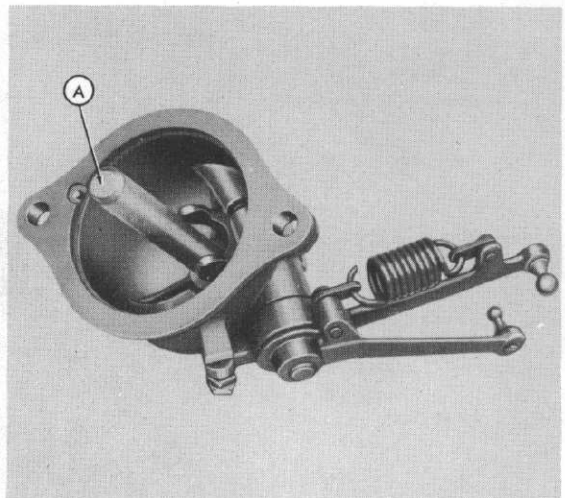

Fig. 4
Step 2—Reinstall the governor shaft bushing using a suitable reinstalling tool as shown in (A-Figure 4).